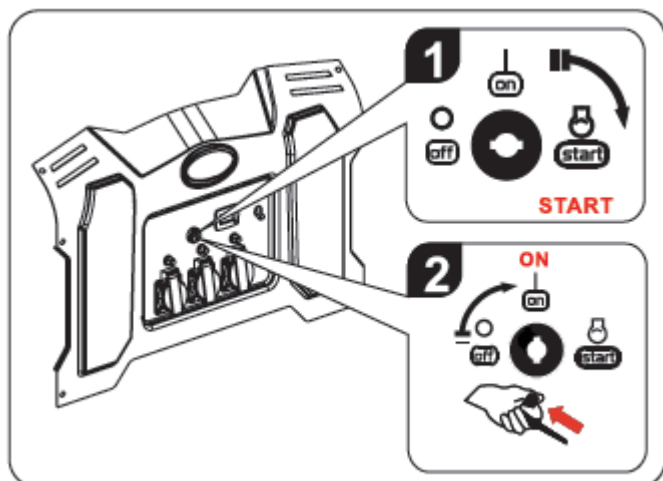

Fig.12 - Electric Start
- For **electric start**, Turn the START/ON/OFF switch (Key) to the "START" position to attempt to start the Engine. If the Engine cranks and fails to start within 15 seconds wait about 1 minute before attempting to start again. (See Fig.12)